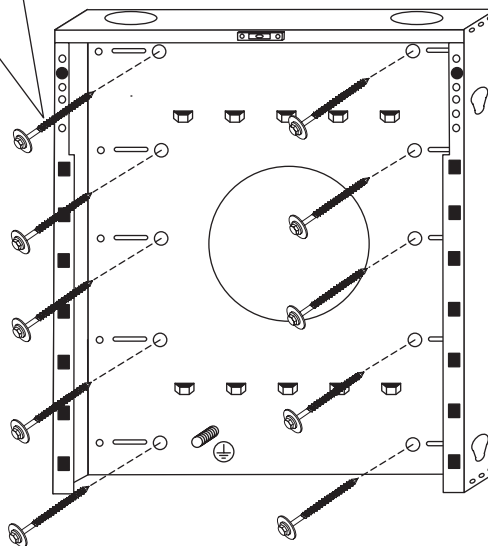

FIGURE 5
Place the MiniRaQ^(TM) main back panel against the wall in the preferred location. Refer to Figure 5 on Page 5 for correct mounting hole pattern.
Place the MiniRaQ^(TM) main back panel against the wall in the preferred location. Refer to Figure 5 on Page 5 for correct mounting hole pattern. Using integrated level, adjust panel and to level and mark a minimum of the two top, two bottom and two middle 1/2" clearance holes (Hole C) Drill 5/32" pilot holes for 3/16" bolts, or 3/16" for 1/4" bolts pilot holes as required by manufacturer. Apply TAPCON® or equivalent concrete double threaded screws. A minimum 2 1/4" length is recommended for full rated loading of MiniRaQ. Lift main back panel and hand tighten bolts and washers (not supplied) most of the way into wall. Tighten all screws. Next go to bracket installation details (pg 7).